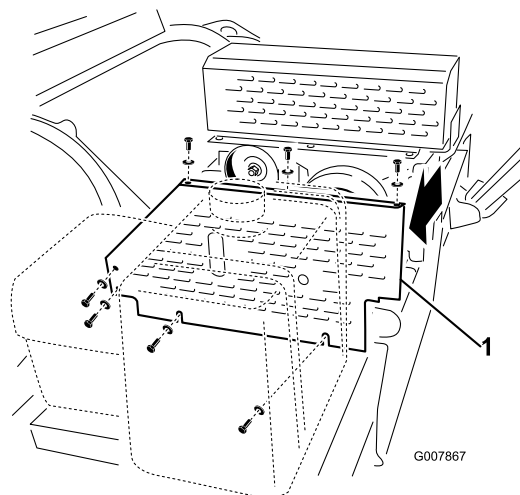

Figure 53
1. Remove the belt cover (Figure 53).